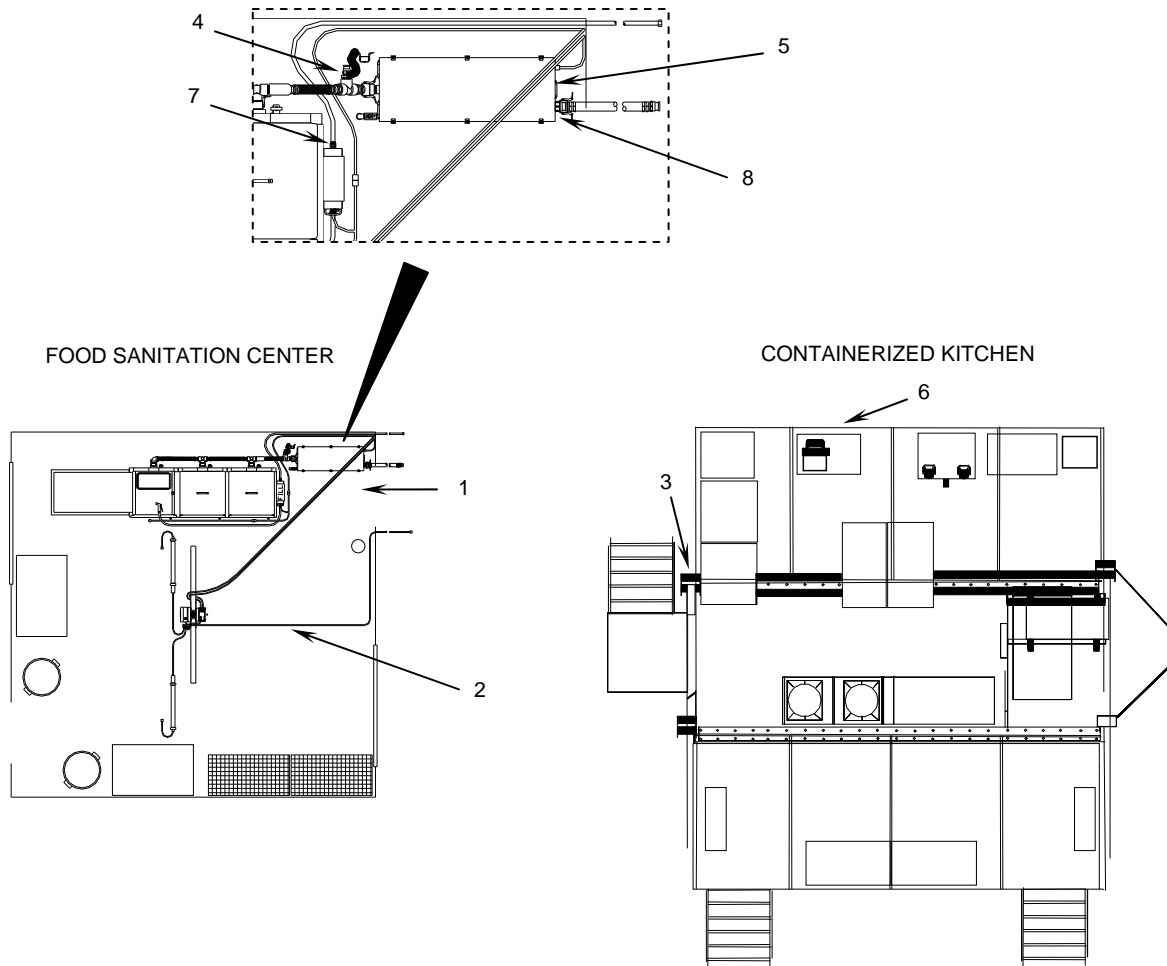

Figure 2. Food Sanitation Center orientation in relation to a Containerized Kitchen.
4. If the FSC is used with the Containerized Kitchen (CK), orient the FSC and CK as follows:
- b. Orient the FSC so that a tent door (**Figure 2, Item 1**) is located toward the CK it will support.
- c. Position the FSC within 100 feet of the power source so that the FSC's 100 foot extension cord (**Figure 2, Item 2**) will reach from the center pole of the FSC tent to the power source.
- d. Position the FSC within 50 feet of the CK so that the CK's 50-ft drain hose can be connected from the CK drain (**Figure 2, Item 3**) to the pipe tee on the FSC drain hose (**Figure 2, Item 4**) on the grease separator (**Figure 2, Item 5**).
- e. Ensure that the CK drain (**Figure 2, Item 3**) is at a higher elevation (minimum 1 foot higher) than the FSCs pipe tee (**Figure 2, Item 4**) to prevent FSC waste water from draining into the CK.
- f. Ensure that the fresh water inlet of the CK (**Figure 2, Item 6**) and the fresh water inlet at the sink fill assembly of the FSC (**Figure 2, Item 7**) are both within 50 feet of the fresh water source so that the FSCs 50-foot water supply hose will reach the water supply.
- g. Ensure that the grease separator outlet (**Figure 2, Item 8**) is within 50 feet of the wastewater reception facility so that the FSCs 50-foot gray water drain hose will reach the waster water reception facility.